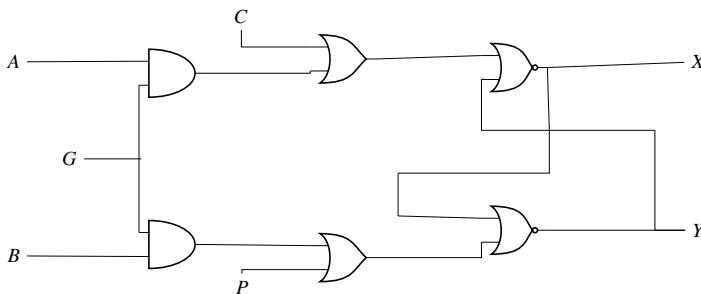

Fig. 3.38
55. For the following circuit Fig. 3.38, the correct logic values for the entries X_2 and Y_2 in the truth table in Table 3.8 are (PH2019,36)